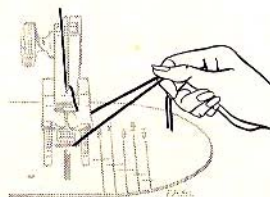

Fig. 33
3. Lay both threads back under presser foot diagonally across feed to the right or left depending upon which side of the needle the material is to be located. See Fig. 33. When the presser foot is lowered the threads will be firmly held between the feed and the presser foot.